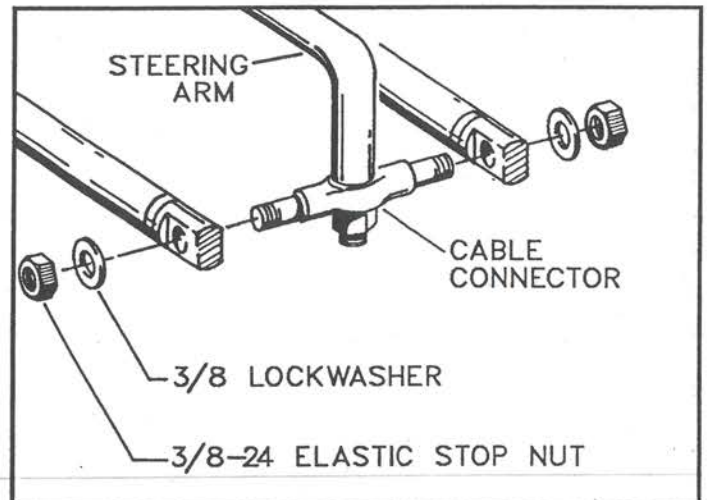

FIGURE 8 CABLE CONNECTOR CONNECTION
E. Carefully spread both *Cables* to allow installation of the *Cable Connector*, but **DO NOT TIGHTEN AT THIS TIME**. See **Figure 8**.
H. Tighten the three (3) *Cable Connector Nuts*, torquing to 120 in.-Ins. Then back Nuts off 1/4 turn.. Refer to **Figure 8**.